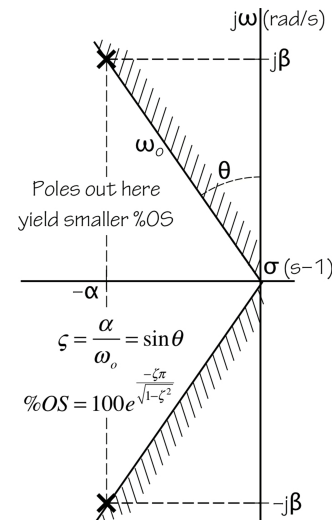

Figure 3: AC Analysis Setup
Therefore, to limit the percent overshoot, we must stay outside the region of sine  $\theta$ . The acceptable region is shown in Figure 3.
How does this translate into a design constraint? Suppose the designer specifies a percent overshoot no larger than 25. First, use the %OS equation above to find the value of  $\zeta$  that will produce a %OS of 25. Second, from the *sine* formula, calculate the angle  $\theta$  shown in Figure 3. The poles of the system's response must be to the left of the boundary shown. Note they
- If the results do not meet specifications, use the s-plane diagrams of Figures 3, 4, and 5 to decide how to adjust  $\alpha$  and  $\omega_0$ .